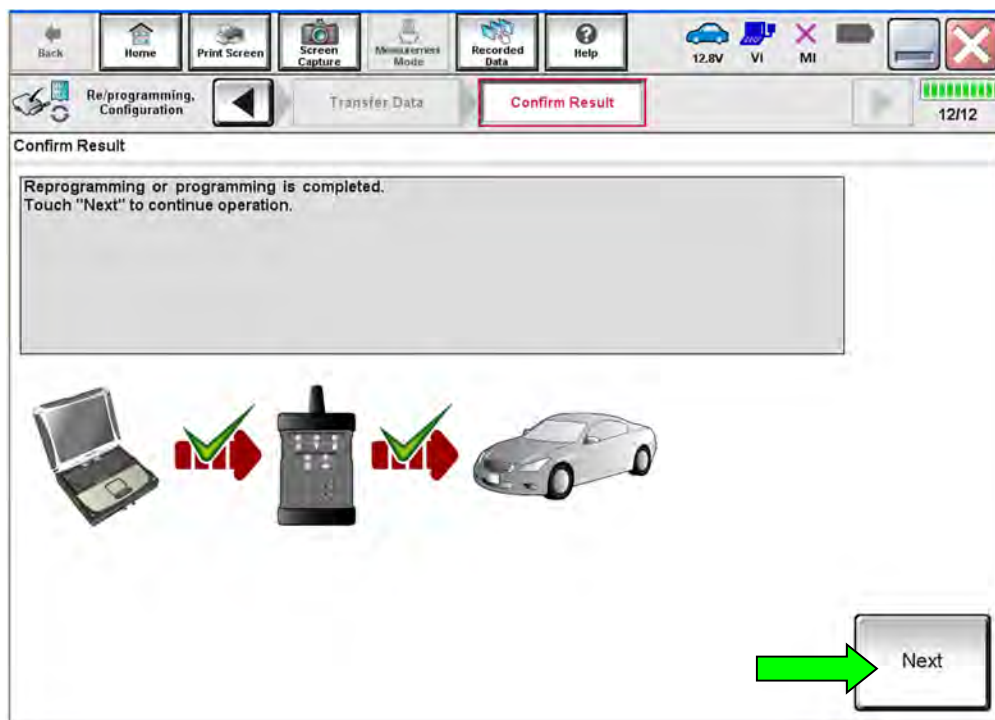

Figure 20
35. When the screen in Figure 20 displays, the reprogramming is complete.
HINT: If the screen in Figure 20 does not display (indicating that reprogramming did not complete), refer to **Laser/Radar Recovery** on the next page.